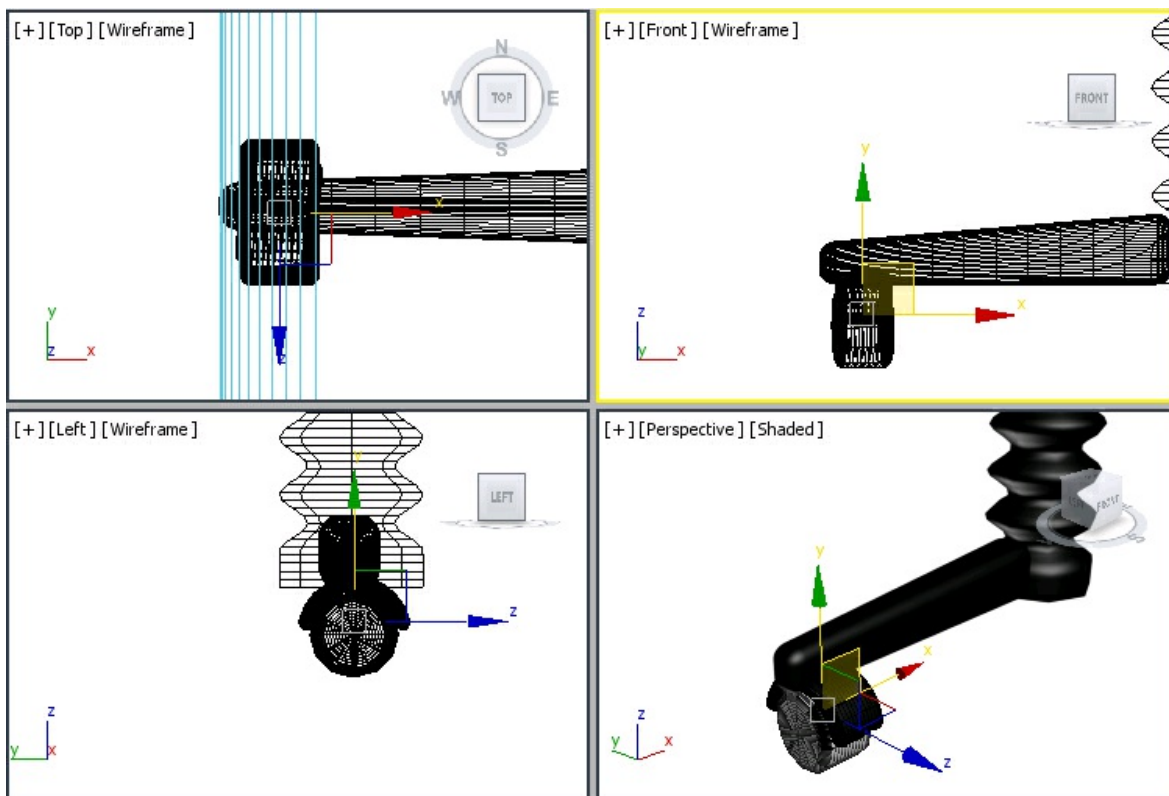

Figure 3-43 *Alignment of roller01 with leg01 in viewports*
17. Using the **Select and Move** and **Select and Rotate** tools, align *roller01* with *leg01* in all viewports, as shown in Figure 3-43.